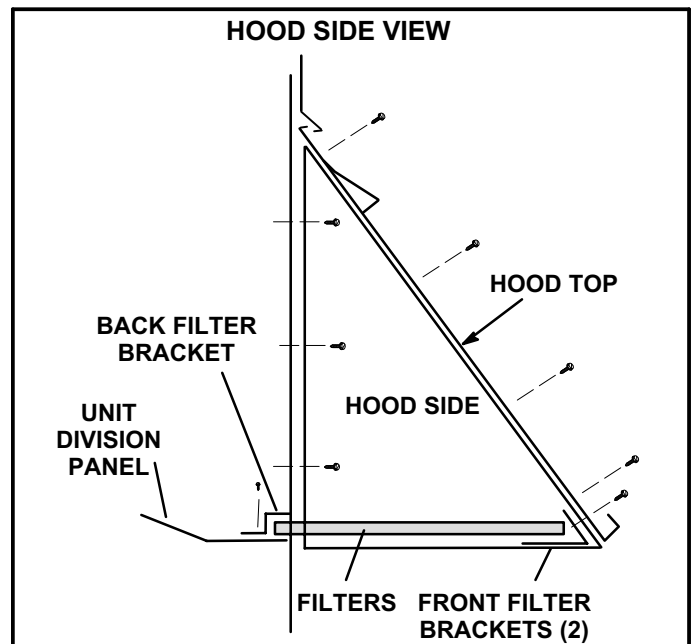

FIGURE 14
- 6- Install back filter bracket on unit division panel as shown in figure 14.